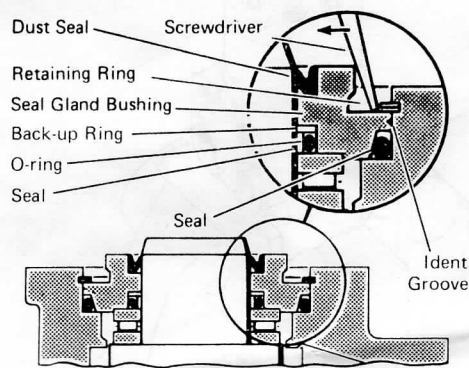

Figure 6
- 22 Install dust seal in seal gland bushing, flat or smooth side down, see Fig. 6.